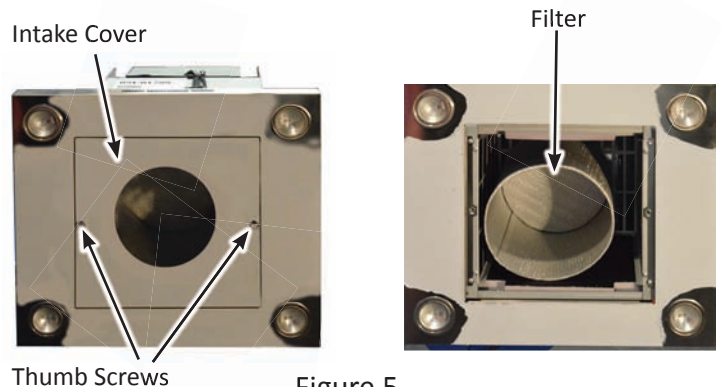

Figure 5
5. Remove two (2) thumb screws to release intake cover at the bottom of the unit. See figure 5.
6. Remove filter. See figure 5.